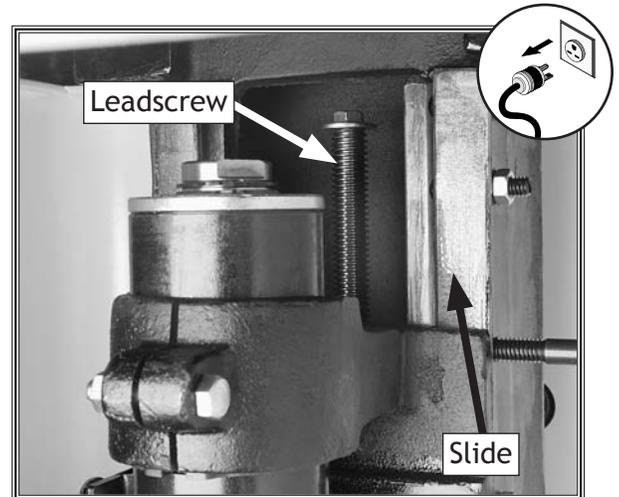

Figure 60. Spindle slide and leadscrew.
2. Use the spindle height handwheel to lower the spindle all the way, then access the elevation assembly through the rear of the cabinet (see **Figure 60**).